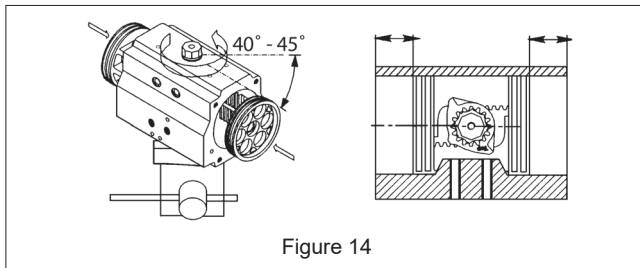

Figure 14
- For standard-rotation assembly (clockwise to close) rotate the body (50) 40-45° counter-clockwise (if viewing the bottom of the actuator), or clockwise (if viewing the top of the actuator) as shown in (Figure 14).
- Press the two pistons (40) simultaneously into the body (50) until the piston racks are engaged and rotate the body clockwise (if viewing the bottom of the actuator), or counter-clockwise (if viewing the top of the actuator), until the stroke is completed.
- To ensure that the piston (40) teeth are evenly engaged, fully compress both pistons (40) inward and measure the distance from the edge of the body to the piston (40) face on each side, shown as dimension "A" in (Figure 14). If a different value is obtained on each side, remove the pistons and repeat from step 2d.